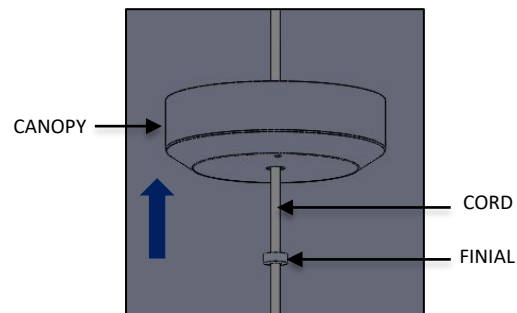

FIG. 8 – CORD ASSEMBLY
4. Feed the CORD through FINIAL and CANOPY as shown below in FIG. 8.